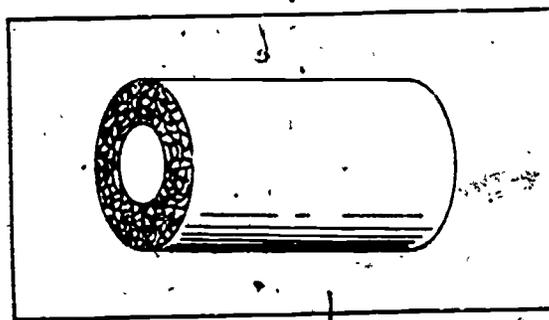

Figure 4-3. Molded cork pipe covering.
c. **Cork pipe covering.** Cork pipe covering is a granulated material that is processed from the bark of cork trees. When it comes to advantages, no other product can match all the benefits of molded cork covering. A piece of cork pipe covering is illustrated in figure 4-3. This pure, clean, granulated cork is compressed and molded to the exact size and shape, and finished with a coating of plastic asphalt. Cork pipe covering is an ideal covering for brine, ammonia, ice water, and all kinds of cold-water lines. It has excellent insulating qualities over a wide low-temperature range. Cork pipe covering will not rot or support combustion, and is clean, sanitary, and odor-free. It is available in a wide variety of sizes and shapes that can be used on various sizes of pipes and fittings.
**Installing pipe covering.** Pipe coverings, illustrated in figures 4-3 through 4-11, indicate some of the types of covering available to the plumber today. These coverings are easily installed, because each section is split in half and has a canvas cover with a flap for quick sealing. Joint collars are furnished to cover joint seams on insulation exposed to outside conditions.